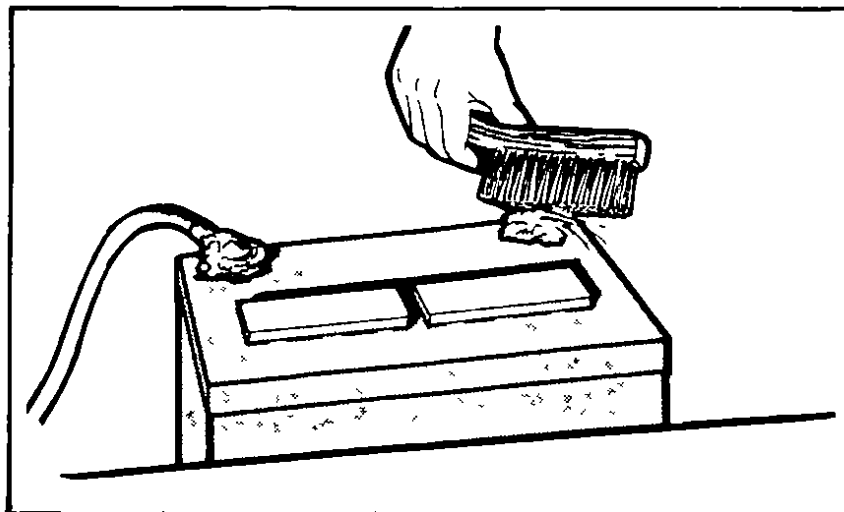

Fig 58 Cleaning battery terminals
- 2 Clean any accumulation of dirt or corrosion off the battery terminals, Fig 58, and tray. This can easily be done with a solution of baking soda and water which will neutralize the battery acid build-up.